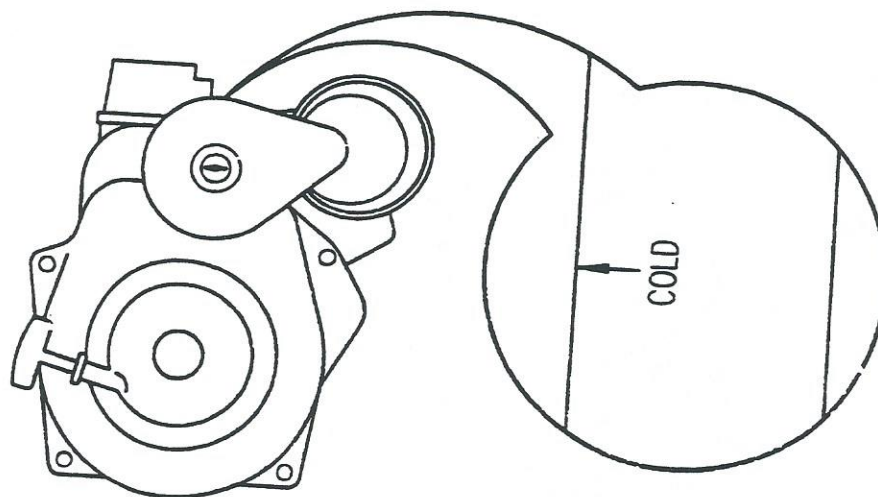

Figure 31 Air Intake Cover, Cold Operation
8. Turn air intake cover to COLD position. (Figure 31)